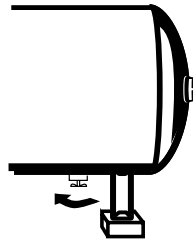

Figure 5 - Opening drain cock
- a. Open drain cock on the tank and run the compressor unloaded for 60 minutes (See Figure 5).
Drain Tank (See Figure 5)	●